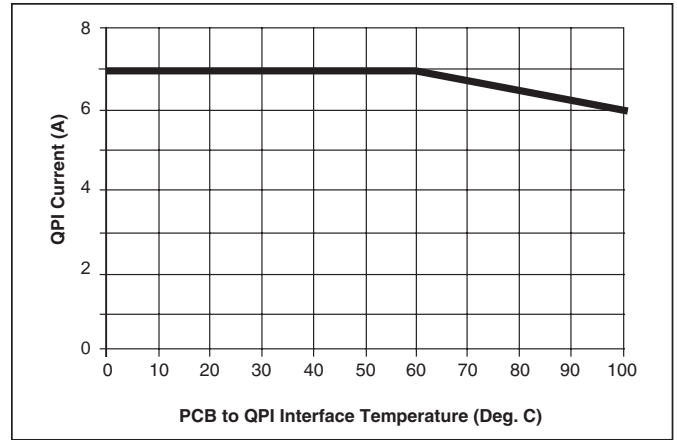

Figure 5 – QPI-4 current derating curve.
- -40° to +100°C PCB temperature (See Fig. 5)
Note 2 - Refer to Figure 5 for current derating curve.
The current derating curve shown in *Figure 5* should be used when the PCB temperature in close proximity of the QPI-4 exceeds 60°C. For example, the QPI-4 will support up to 6.5 A of current or 312 W from a 48 Vdc bus at an 80°C interface temperature. Temperature should be measured at the PCB interface to the QPI-4 on the Bus +/- pads or the QPI+/- pads. Refer to *Figures 9, 10 & 12* for PCB layout recommendation.